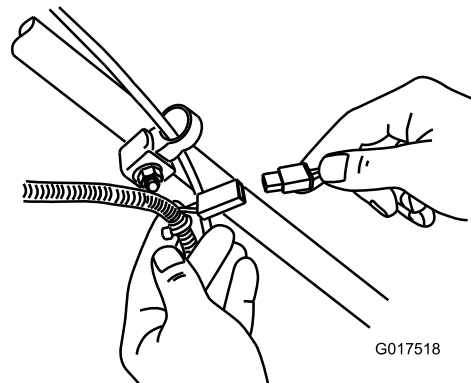

Figure 31
1. Connect the charger to the wire harness located below the ignition key (Figure 31).